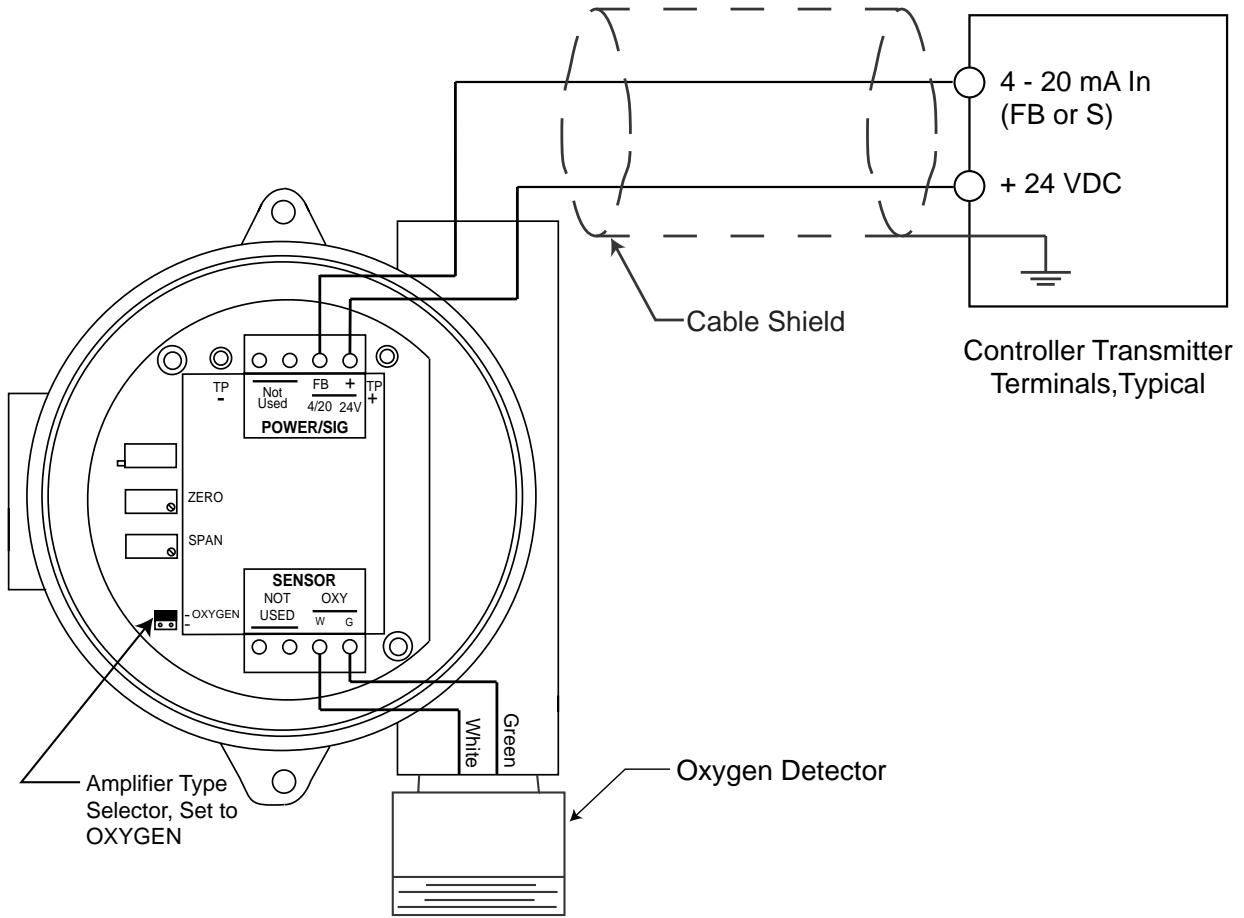

Figure 3: Wiring the Oxygen Transmitter to a Controller
4. Verify that the detector leads are wired to the amplifier's detector terminal strip. If necessary, connect the leads to the detector terminal strip as shown in Figure 3.
5. Verify that the jumper block is installed over the **OXYGEN** selector of the amplifier type selector as shown in Figure 3.
8. Connect the two wires to the interconnect terminal strip as follows (see Figure 3).
11. Connect the wires to the applicable transmitter terminal strip at the controller as shown in Figure 3.
7. Connect the detector leads to the amplifier's detector terminal strip as shown in Table 3 below and Figure 3 on page 6 of this manual.
10. Reconnect the wiring that connects the controller and oxygen transmitter to the amplifier's interconnect terminal strip as shown in Table 4 below and Figure 3 on page 6 of this manual.
11. Reconnect the detector leads to the amplifier's detector terminal strip as shown in Table 5 below and Figure 3 on page 6 of this manual.